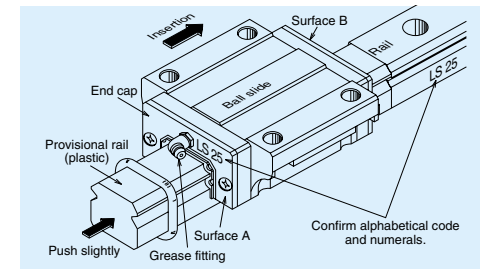

Fig. II-9-23 Inserting interchangeable ball slide into the rail
- Interchangeable ball slide is assembled on a provisional rail (an inserting tool) when it is delivered (Fig. II-9-23).
- ① Wipe off the rust preventive oil from the rail and ball slide.
- ② Please match an groove mark for datum face of bearing with a rail to become an assembling state desired.
- ③ Align the provisional rail to the rail in the bottom and side faces. Press the provisional rail lightly against the rail, and move the ball slide over the rail (Fig. II-9-23).